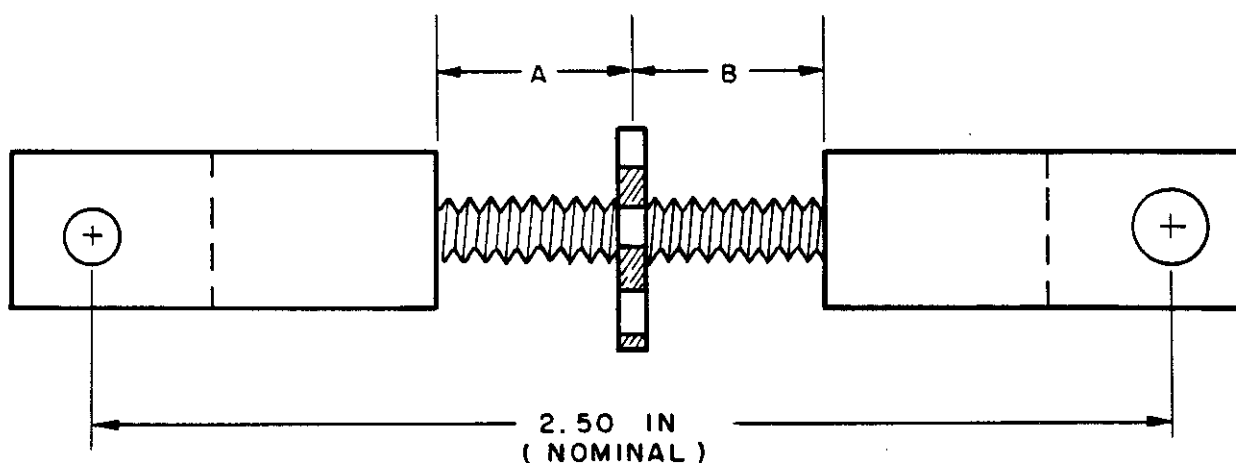

Figure 5. Idle Mixture Leakage
1. Remove idle mixture link and reset to the nominal 2.50 inch dimension as shown in Figure 5. The "A" and "B" distances should be equal at the 2.50 dimension. Reinstall idle mixture link. Refer to the master clevis settings list at the end of this manual for exact clevis settings for a particular parts list control.